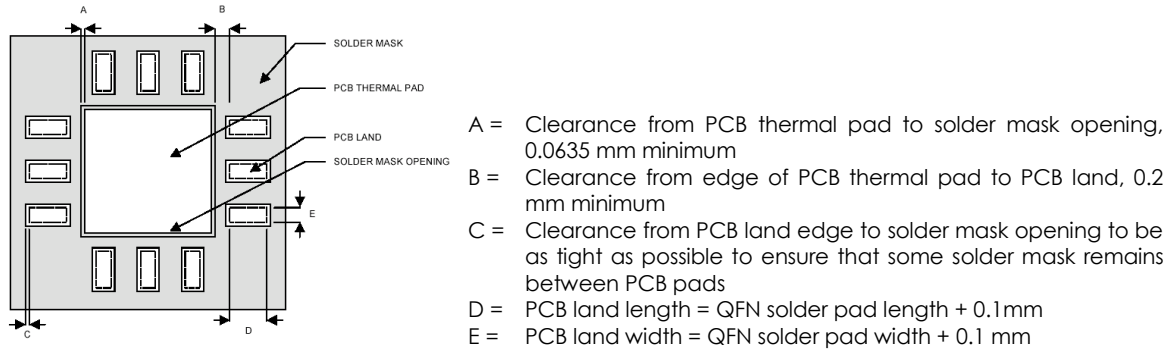

Figure 6: PCB land and solder mask recommendations
1. PCB land and solder masking recommendations are shown in Figure 6.